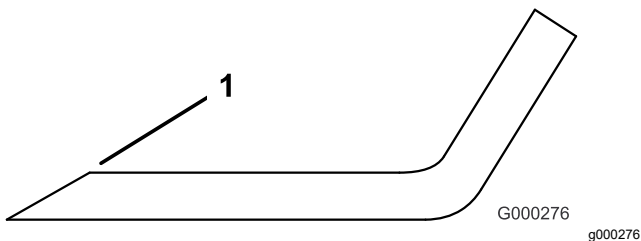

**Figure 130**
- Examine the cutting ends of the blade carefully, especially where the flat and curved parts of the blade meet (Figure 130).
**Note:** Because sand and abrasive material can wear away the metal that connects the flat and curved parts of the blade, check the blade before using the mower. If wear is noticed (Figure 130), replace the blade.